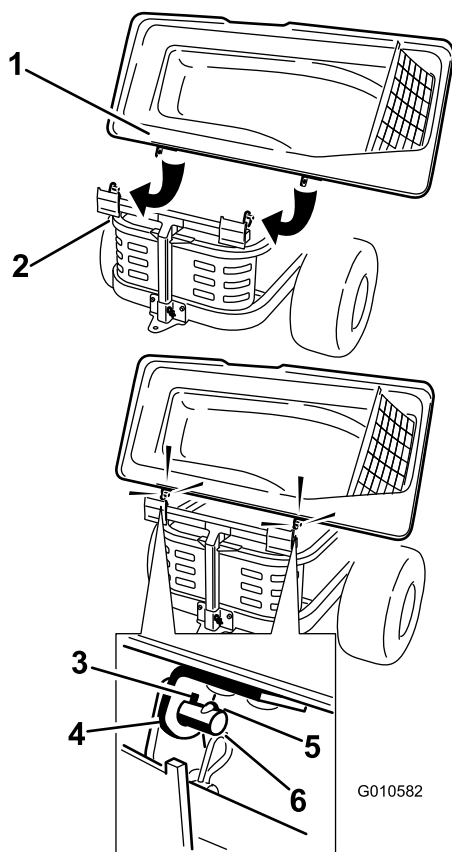

Figure 9
1. Install the bagger top to the bagger frame. Rotate the bagger top to align the key holes in the bagger top brackets with the keys in the posts on the bagger frame (Figure 9). Slide the brackets over the posts